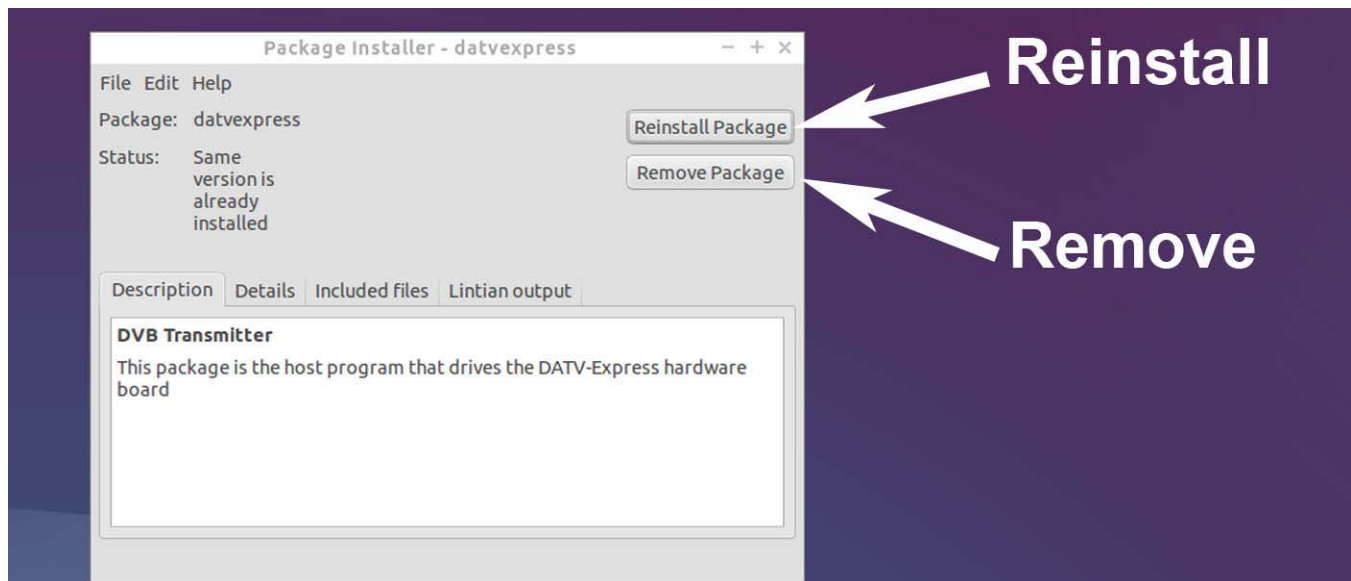

Figure 12 – Lubuntu GDebi Package Installer screen for Upgrading Software
- The best way to remove the existing DATV-Express binary file to trash is to use the REMOVE PACKAGE button in shown in **Figure 12**.
- The Lubuntu GDebi will open and display that the DVB TRANSMITTER app is installed See **Figure 12**.
- A green-checkmark should re-appear to announce “INSTALLED” and the far-right button will now offer REINSTALL as shown in **Figure 12**.